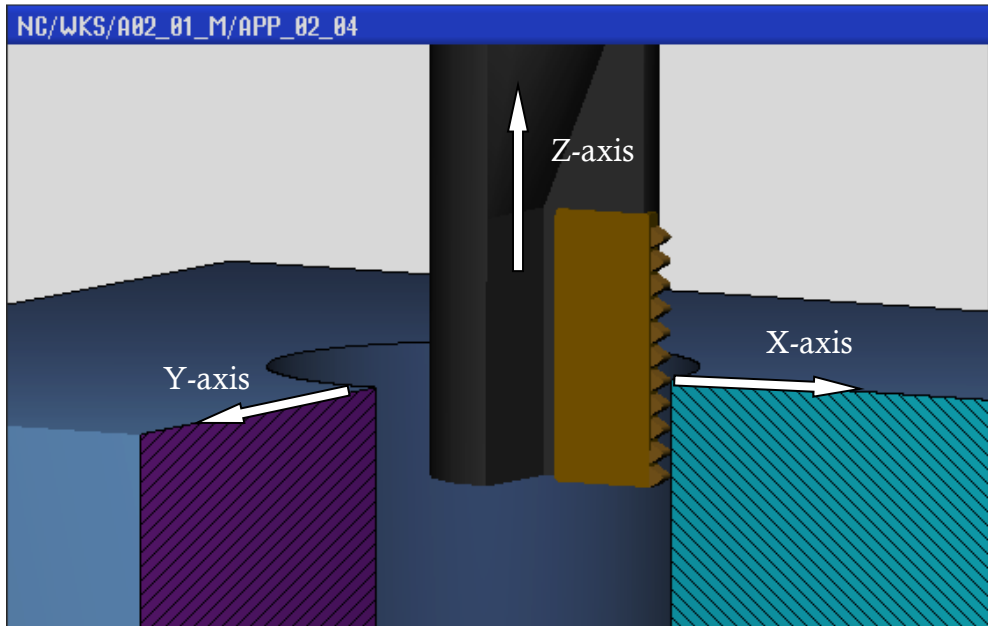

Fig. 5. Execution of thread using a thread mill
- on block N330, the mill is positioned at the correct depth, which depends on how many threads the operator chooses to mill in one turn (**Fig.5**).